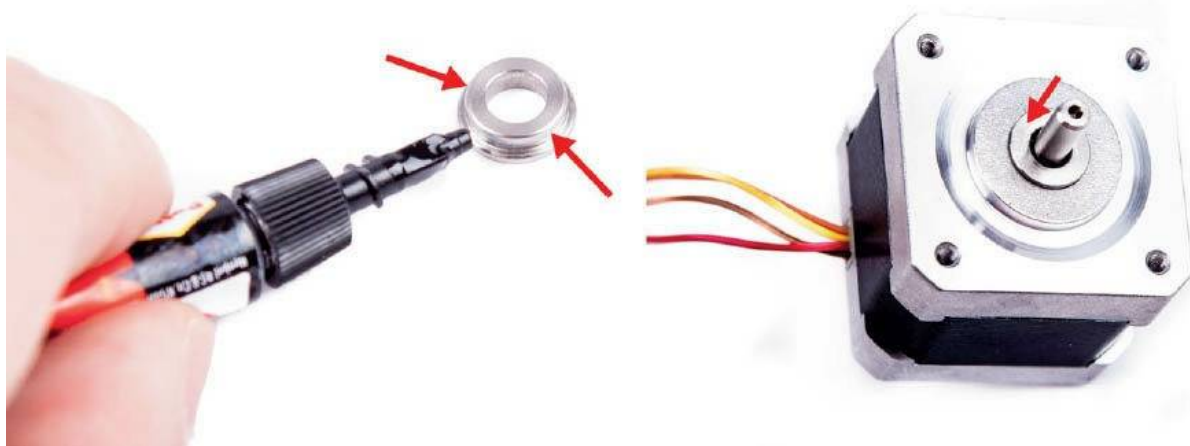

Fig. 2.22 *Inserting the thrust bearing*
2. Apply a drop of 3-IN-ONE oil to the running surface of the thrust bearing as shown by the red arrow on the right in figure 2.22.
1. The X axis is assembled the same way as the Z axis (see figures 2.22 and 2.23). Mount the thrust bearing, lead screw connector, and lead screw the same way too, and don't forget to apply a drop or two of oil to the face of the bearing. Make sure that there is no play between the shaft connector and the bearing.